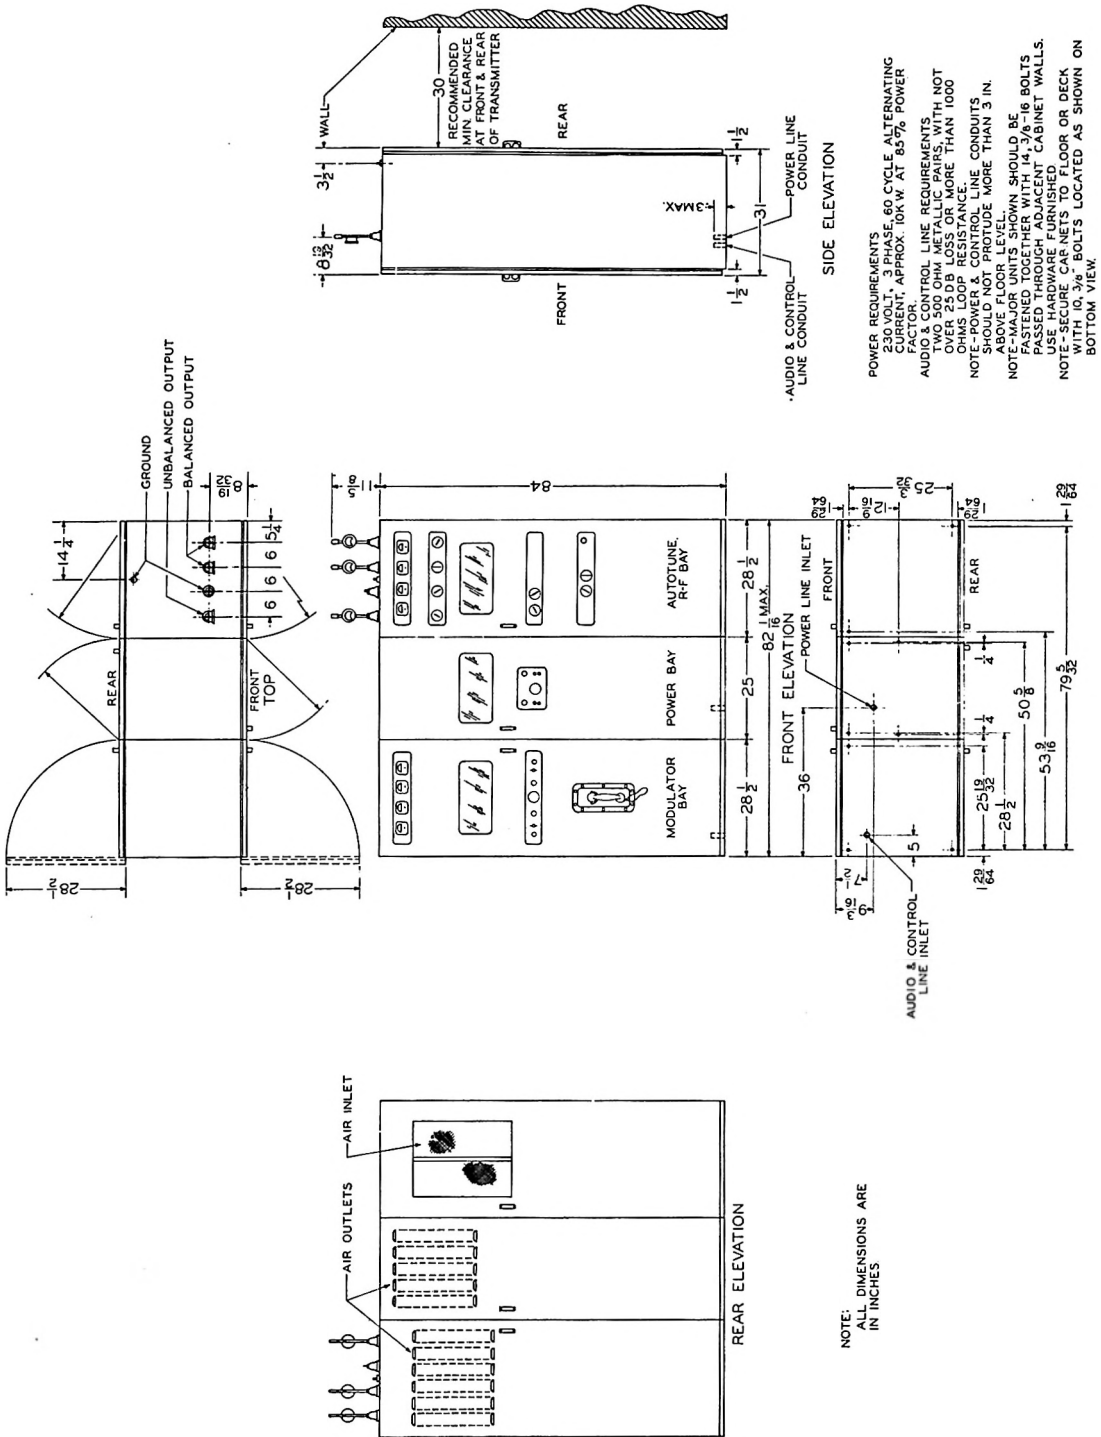

Figure 17. Installation Diagram
3.1. GENERAL. Before placing the cabinets be sure that arrangements are complete (especially the power input conduit) for the external connections to the equipment. Refer to figure 17 for the overall dimensions of the cabinets and the positions of the wiring ducts.
Refer to figure 17 for the proper placement of the cabinets. First place the center, or Collins Type 1100C-2 Rectifier Power Unit, in position. The Collins Type 1025-4 Modulator cabinet (identified by the handset mounted in the cabinet door) should be placed on the left side of the Collins Type 1100C-2 Rectifier Power Unit (as viewed from the front). Place the Collins Type 1016-5 Radio Transmitter on the right side of the rectifier power unit.